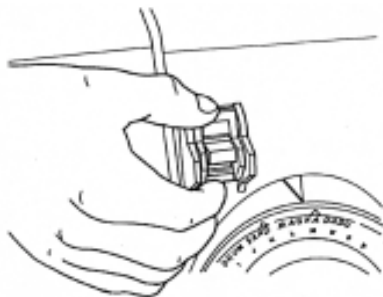

Figure 5
7. Re-install the switch on the casting by reaching inside the casting through the access hole with one hand to help guide the wires through the headstock switch opening. With the other hand, push the switch into the switch opening until the switch is completely seated against the headstock. See Figure 5.